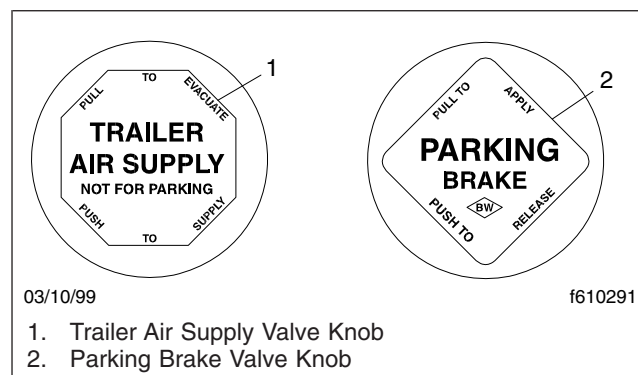

Fig. 17.8, Brake Valve Knobs
6. Ensure that the trailer air supply valve (trailer brake) is pulled out, and that the trailer parking brakes are set. See Fig. 17.8.
5. Verify that both the parking brake and trailer air supply knobs are out (see Fig. 17.8), the tractor and trailer parking brakes are set, and that the trailer is prepared for uncoupling.
1. Verify that both the parking brake and trailer-air supply knobs are out (see Fig. 17.8), the tractor and trailer parking brakes are set, and that the trailer is prepared for uncoupling.
1. Verify that both the parking brake and trailer air supply knobs are out (see Fig. 17.8), the tractor and trailer parking brakes are set, and that the trailer is prepared for uncoupling.